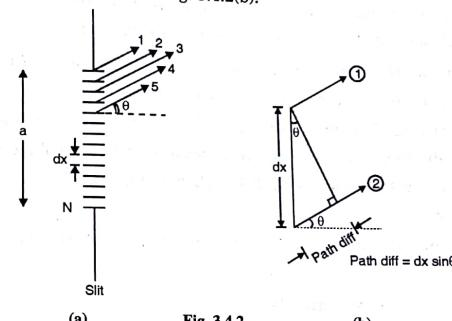

Fig. 3.4.2
- Consider the given slit to be divided into N parallel slits, each of width  $dx$ . See Fig. 3.4.2(a).
- One of such slits is shown in Fig. 3.4.2(b).
- The path difference between the rays diffracted from its upper and lower edges is  $dx \cdot \sin \theta$  and hence the corresponding phase difference between them is, (refer Fig. 3.4.2(b)).
- Thus at point P, N phasors with same amplitude, same frequency and same phase difference  $\Delta\phi$  between the adjacent members combine to produce the resultant disturbance. Fig. 3.4.2 shows the vector addition of such N phasors.